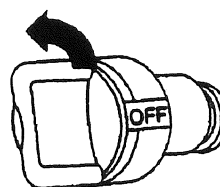

fig. 7
3. Turn the fuel shut-off valve on (fig. 7).